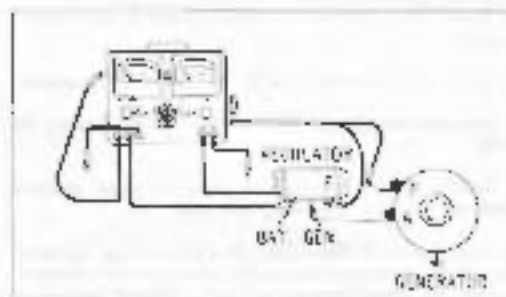

Figure 51-12.
E. TESTING VOLTAGE CONTROL UNIT SETTING (FIG. 51-12)